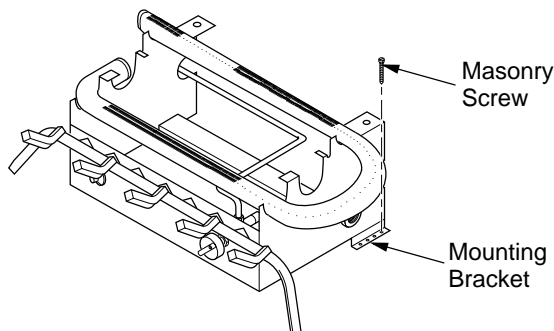

Figure 13 - Attaching Base Assembly to Fireplace Floor - Dual Burner Model
7. Mark screw locations through holes in mounting brackets (see Figure 13 or 14). If installing in a brick-bottom fireplace, mark screw locations in mortar joint of bricks.
10. Attach base assembly to fireplace floor using two masonry screws (in hardware package) (see Figures 13 or 14).